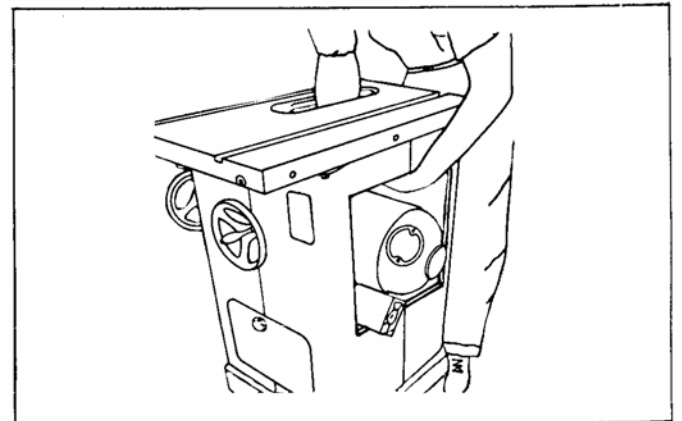

Fig. 7.
10. To make the installation of the belts easier, it is best to take the weight of the motor on a block of wood as shown in Fig. 7. Hang all three belts on motor pulley in their respective grooves. Then taking the belt in the groove furthest from the motor and slipping it over the outboard arbor bearing, into the corresponding groove on the arbor pulley, follow the same procedure with the belt in the center groove and finally with the inside belt. Raise the saw arbor until the belts lift the motor from the block, remove block, then lower until the proper belt tension is obtained. The belts should operate fairly loose. Do not hang weight of motor on belts.